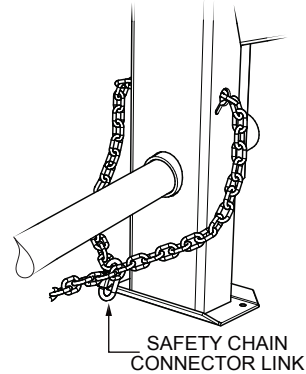

Figure 9. Crossing The Safety Chain
4. Loop (cross) the safety chain (Figure 9) and place under the tow bar. Secure the loop with the safety chain connector link.